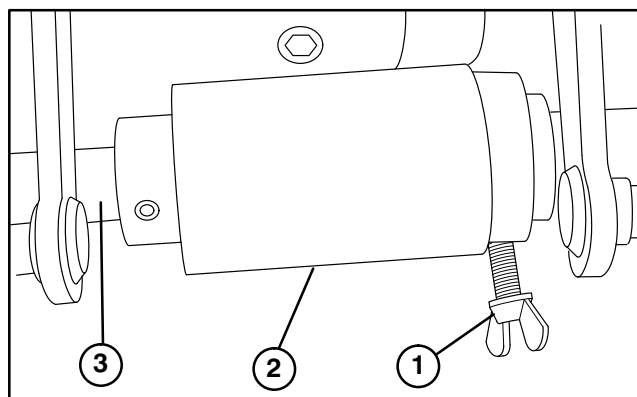

Figure 2
5. Loosen wing screw securing plastic coupler to jack shaft (Fig. 2).